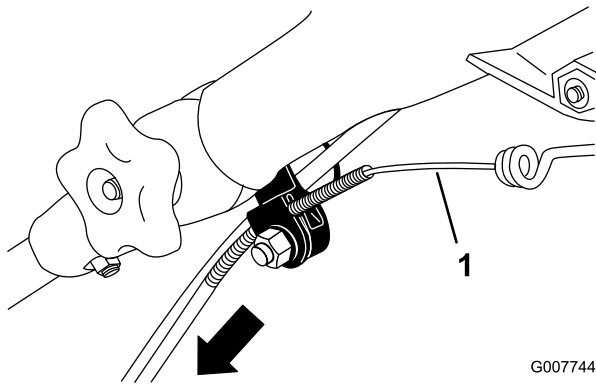

**Figure 43**
1. Loosen the nut on the cable mount (Figure 43).